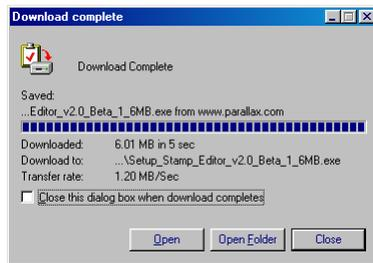

Figure 1-13
- √ When the download is complete, leave the window shown in Figure 1-13 open while you skip to the next section - Activity #2: Installing the Software.